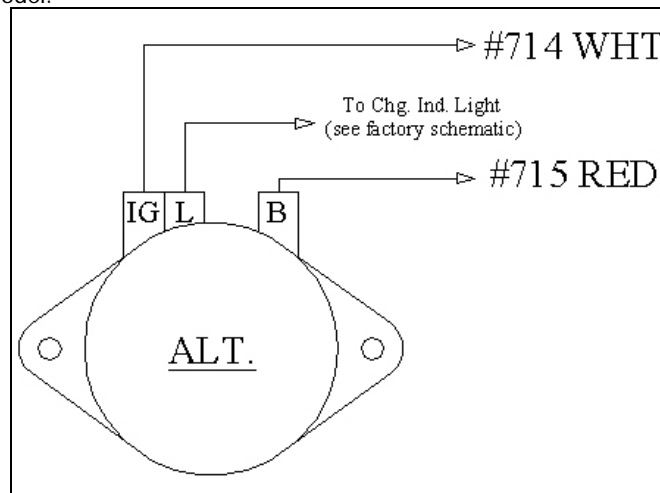

Figure 8-4 Toyota Alt. Diagram (Internal Regulator)
8.4 Toyota Alternator w/Internal Regulator. See Figure 8-4
Note: Your Alternator may not appear exactly as represented in Figure 8-4. The circuits are wired the same way, though.